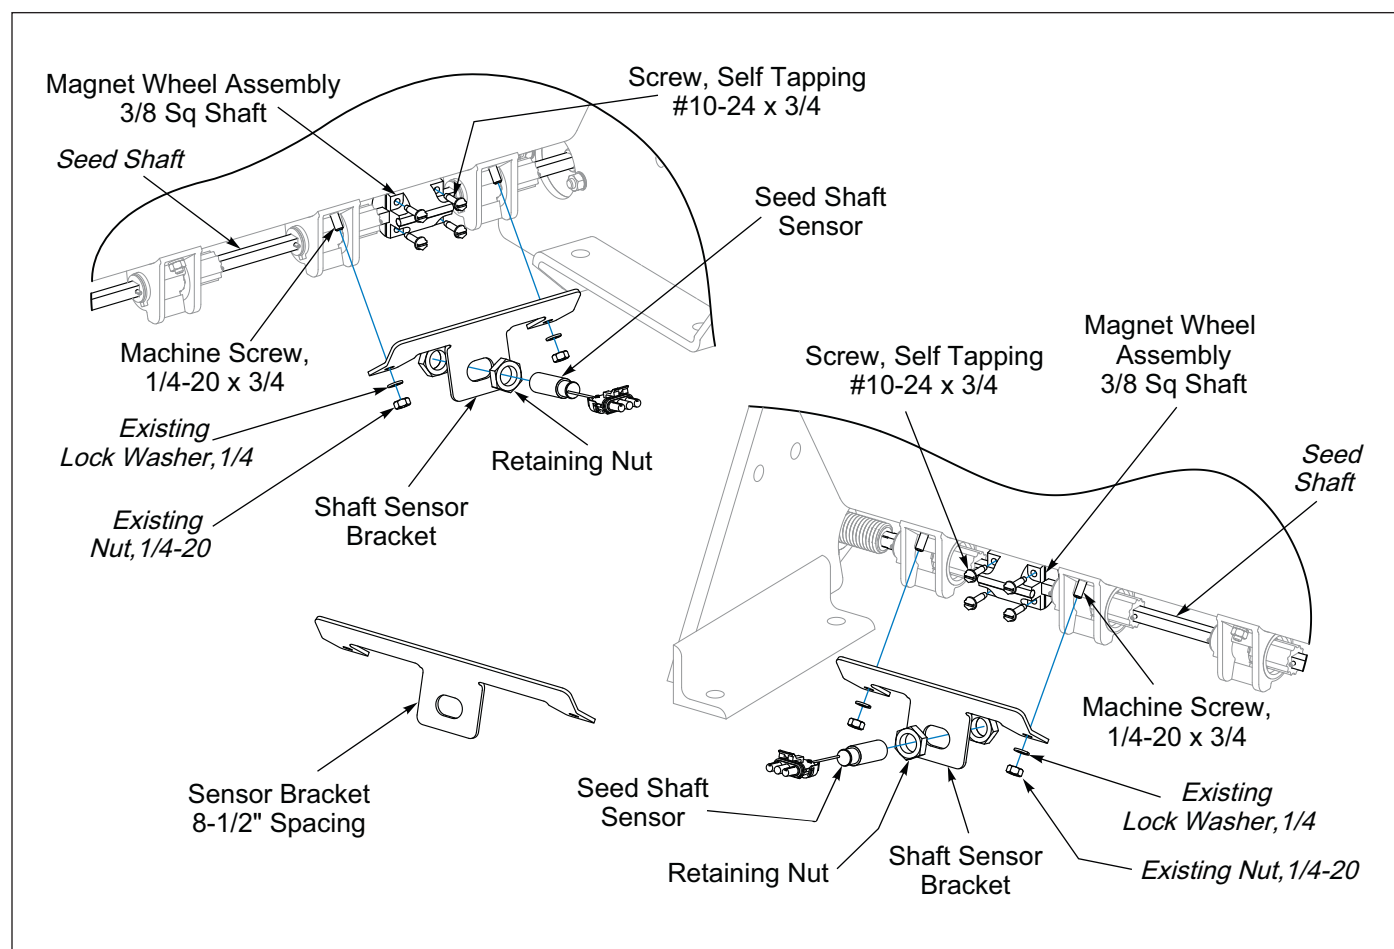

Figure 2-36: Console w/Clutch Control - Front Seed Box Seed Shaft Sensor
1. Remove the four 10-24 x 3/4 Self Tapping Screws from the Magnet Wheel Assembly. **See Figure 2-36.** Position the rounded half of the Magnet Wheel Assembly on the seed shaft. Ensure it fits squarely onto shaft. Mount magnet half to the rounded half. Ensure it fits squarely onto shaft.